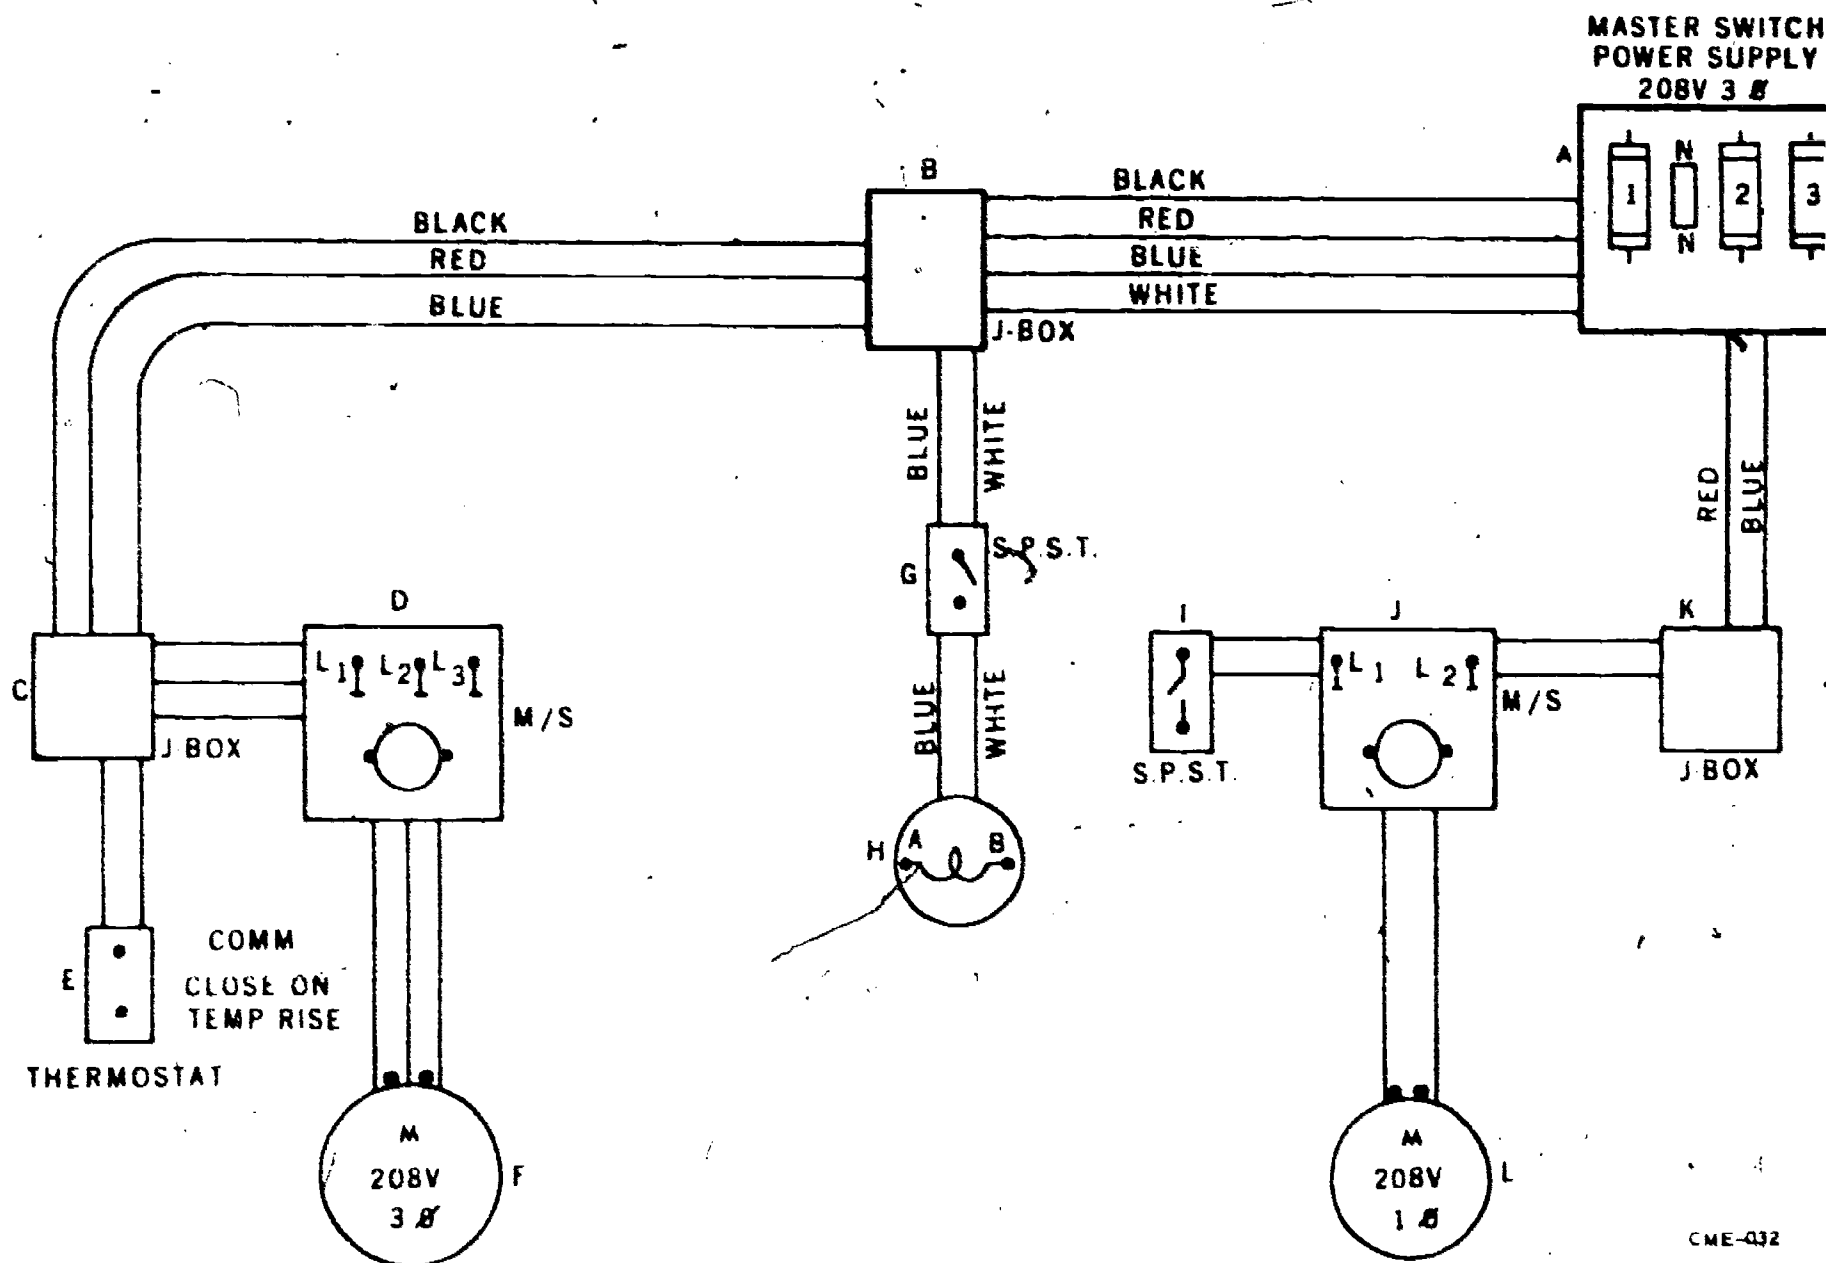

Figure 11. Wiring Diagram
**NOTE:** Refer to figure 11 for trainer breakdown.
**NOTE:** Refer back to figure 11 for trainer breakdown.